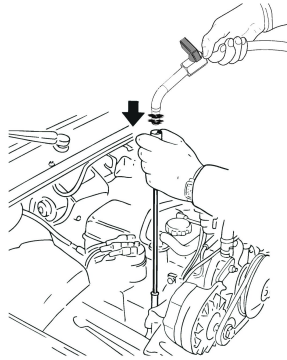

Fig. 3
3. Choose suitable probe (which is the largest diameter one can be inserted into the engine) and tightly connect it to the extraction pipe connector FIG.3, Insert the end of the probe into the engine oil inlet hole